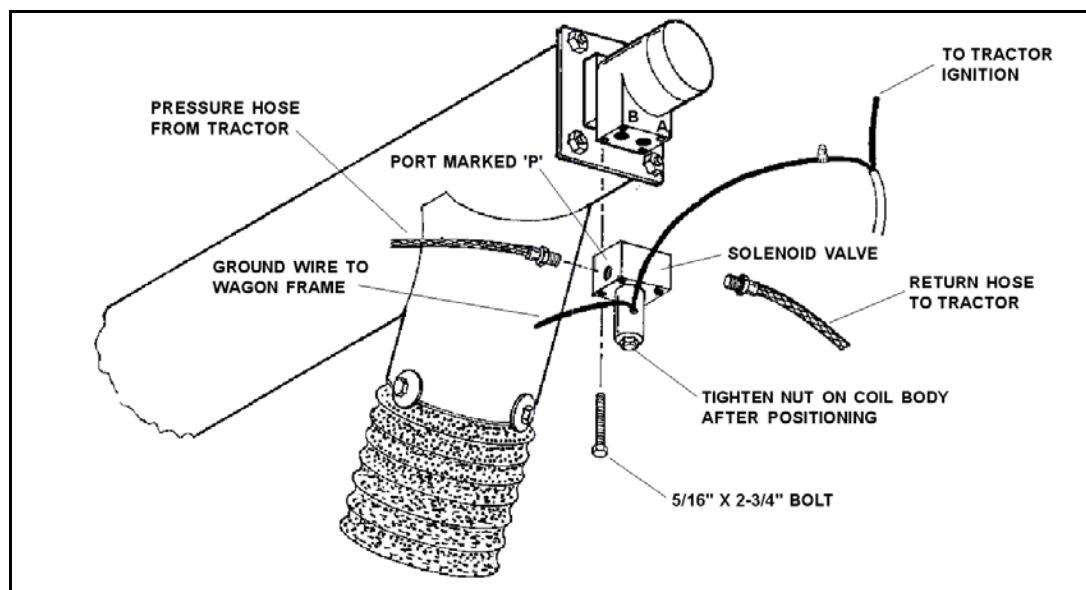

Figure 3.14
3. Ensure o-rings are properly seated in oil ports on hydraulic motor (see Figure 3.14). Remove plastic hole covers from ports of solenoid.
4. Position solenoid with side marked "P" over Port "B" on hydraulic motor (Figure 3.14) and secure solenoid with four 5/16" x 2-3/4" bolts.
**Important:** To obtain correct rotation on the auger flight, the "P" port on solenoid valve must be located on port "B" of motor (Figure 3.14).